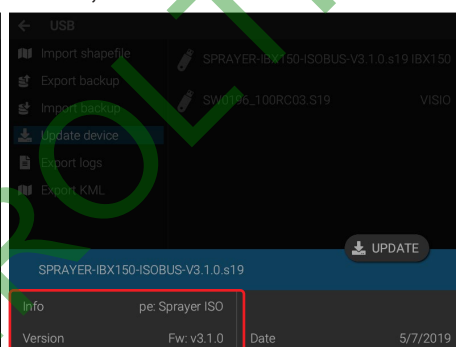

Fig. 108
- Check that the type of update file (Fig. 108 Info) corresponds to the product to be updated and press **UPDATE** (Fig. 108).